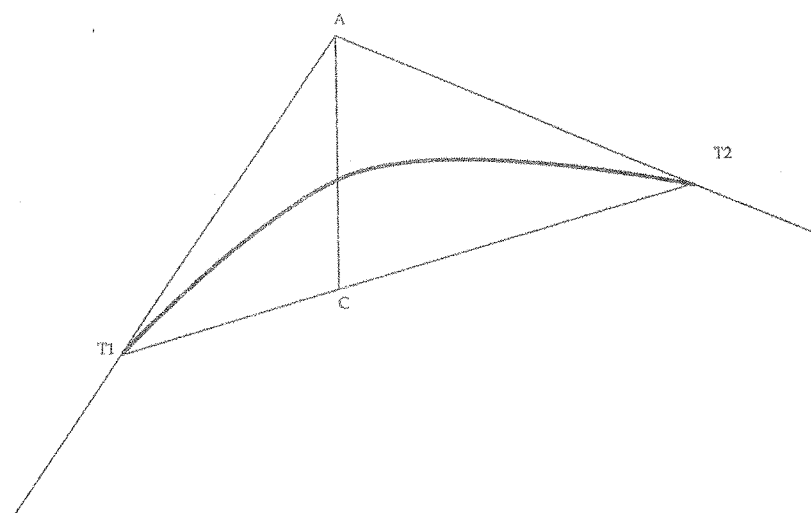

Figure Q2-1 Schematic diagramme of a vertical curve (Not to scale)
- d) A 400 m vertical curve is proposed for the curve [in Q2. (c)]. If the elevation of the starting point (T1) of the vertical curve is 876.990 m AMSL and the chainage is 35+766 m, calculate the following (Refer Figure Q2-1):